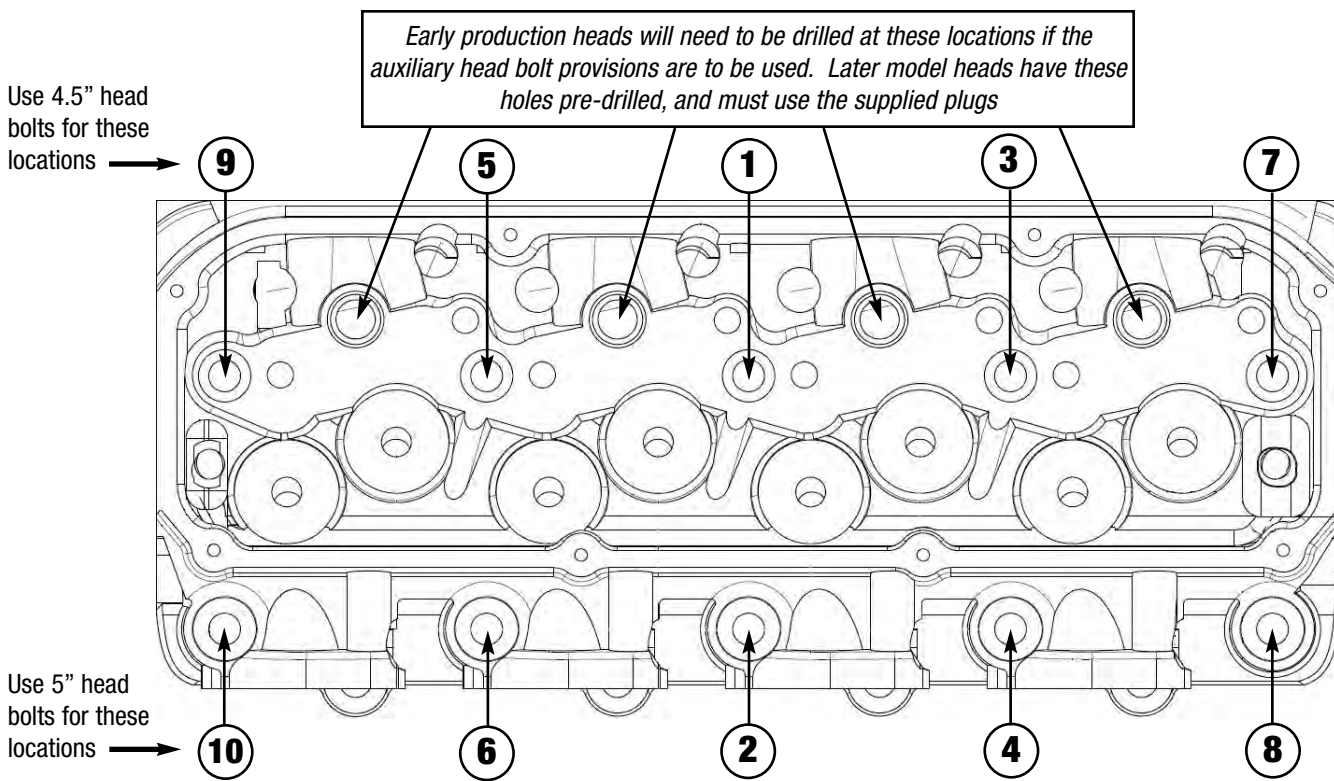

FIGURE 1 - CONVENTIONAL TEN (10) BOLT TORQUE SEQUENCE
- **HEAD BOLTS OR STUDS:** High quality 1/2" head studs or head bolts with hardened washers must be used to prevent galling of the aluminum bolt bosses. **See Figure 1** for the cylinder head bolt tightening sequence. The even number provisions in the torque sequence near the exhaust ports will use the 5" long bolts, while the odd provisions below the valve cover use the shorter 4.5" bolts. Bolt threads, underside of bolt heads, and washers should be lubricated with an oil/moly mix prior to installation and torquing. Apply liquid Teflon PST or suitable thread sealant on any bolt threads that go into coolant passages.
Be sure that the surface of the block and the surface of the head are thoroughly cleaned to remove any oily film before installation. Use alcohol or lacquer thinner on a lint-free rag to clean. Apply oil or suitable thread lubricant to head bolt threads and the underside of bolt heads and washers to prevent galling and improper torque readings. Apply liquid Teflon PST or other suitable thread sealant on any bolt threads that go into coolant passages. Torque 1/2" bolts or stud nuts to 100-110 ft./lbs. in three step increments, following the tightening sequence shown in **Figure 1**. A re-torque is recommended after the initial start-up and cool-down (allow 2-3 hours for adequate cooling).